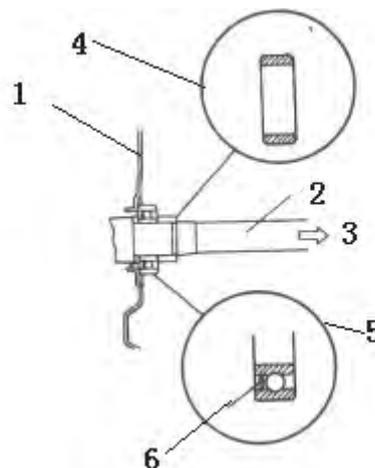

FIG 13-31
(1) Wash half-axle, half-axle bearing and bearing spacer to be free from dirt and others using metal scour. If burr or hard matter being found, grind them with sandpaper or iron brush.
(2) press rear brake bottom plate, half-axle spacer, half-axle bearing and bearing spacer into half-axle in turn.(FIG.13-31)